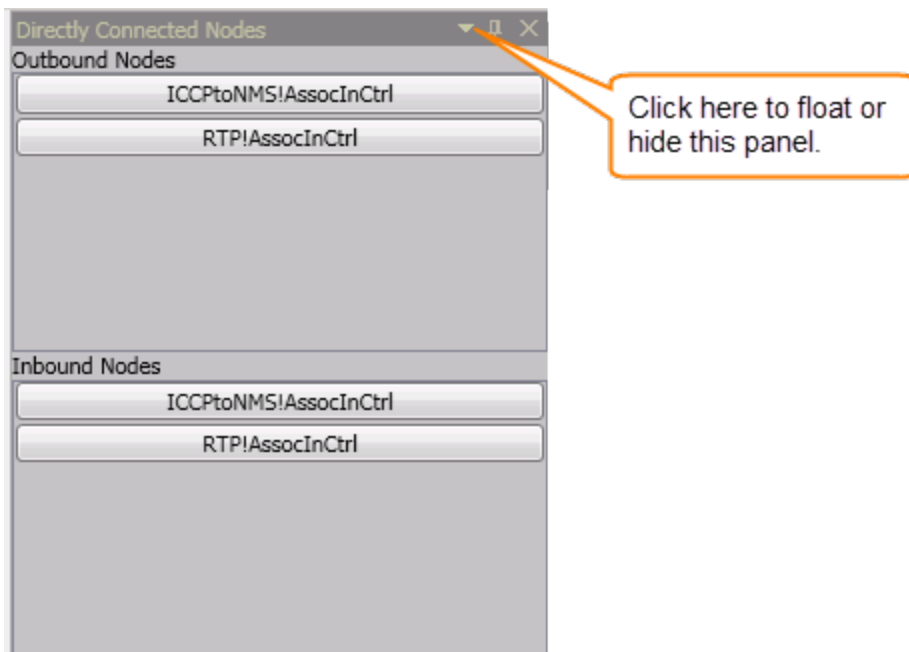

Figure 32: Directly Connected Node Panel
- » Directly connected nodes in the Directly Connected Nodes panel to the right of the Node Table. Outbound Nodes are shown in the top subsection and Inbound Nodes are shown in the bottom subsection as displayed in Figure 32.